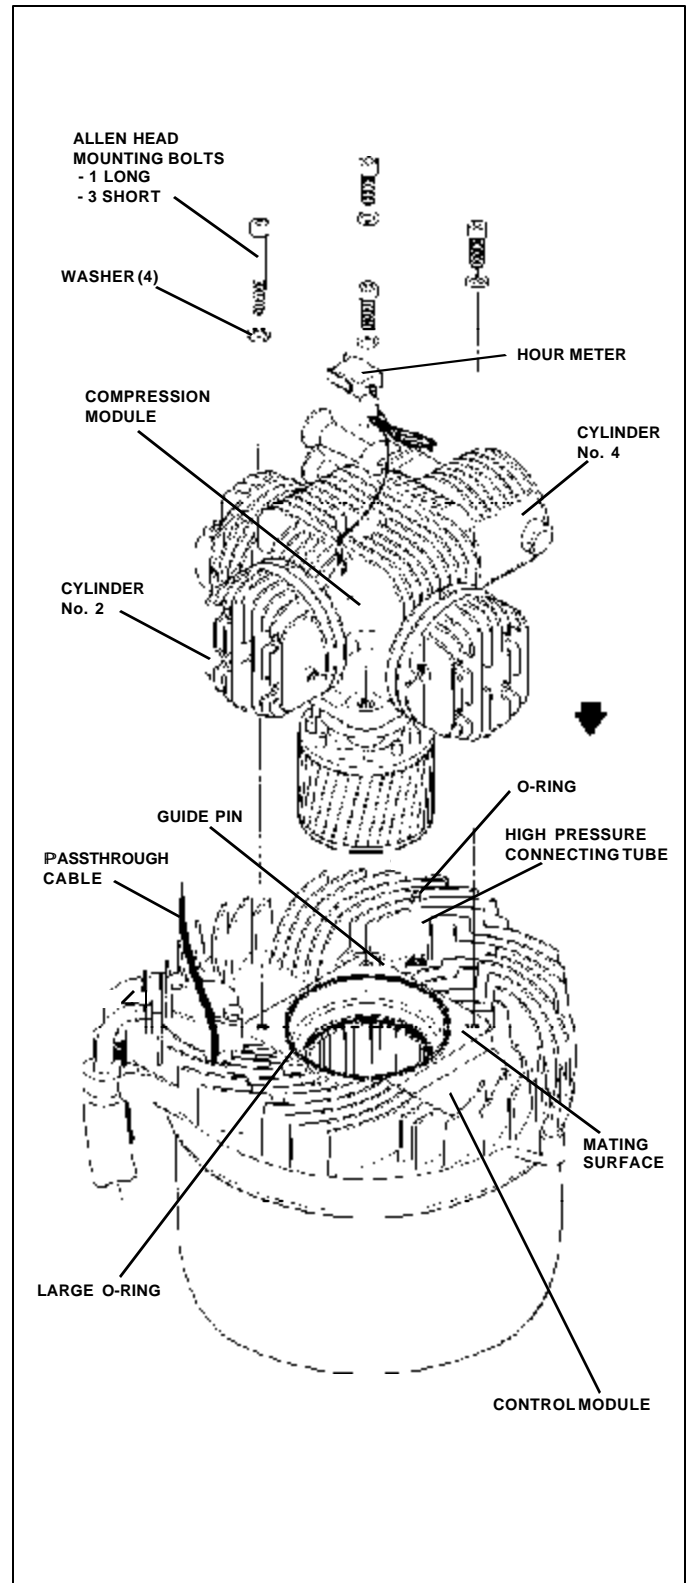

Figure 11 Compression Module Replacement
- Closely inspect the *O-ring* on top of the *high pressure connecting tube*; replace if damaged (See Figure 11).
- Grasp the *Compression Module* by cylinders No. 2 and 4 and then orientate it so that the guide pin in the *convection plate* lines up directly with its respective hole in the *Compression Module* as shown in Figure 11.
- Ensure that the *high pressure connecting tube* remains installed in the *convection plate* (See Figure 11).